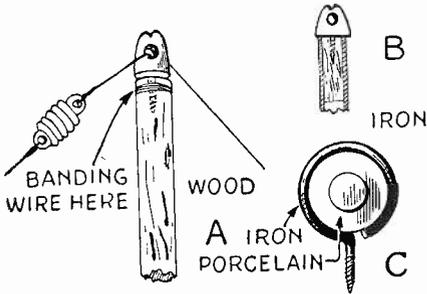

Fig. 19
Instead of using a pulley, use a porcelain house bracket insulator. This has a screw moulded into it and a perfectly smooth hole through it. Screw this into the top of the wooden pole (A); or if an iron pipe is used put in a plug, bore a hole in the plug and screw in the insulator (B). At (C) is shown another form of screw insulator which may be used. You can now run a small wire (which usually lasts a lot longer in the weather than one of the stranded ones) through this for the pull-up wire. It cannot get out; runs through the insulator freely; and will never rust. (Fig. 19)